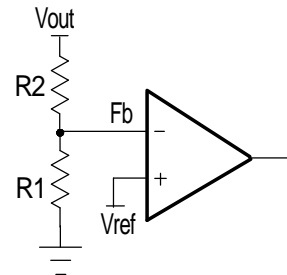

Figure 9 - Voltage divider
0.8V. The divider consists of two ratioed resistors so that the output voltage applied at the Fb pin is 0.8V when the output voltage is at the desired value. The following equation applies to figure 9, which shows the relationship between V_{OUT} , V_{REF} and voltage divider.
The diagram of LDO controller including VCC regulator is shown in above figure 9. For low frequency ca-